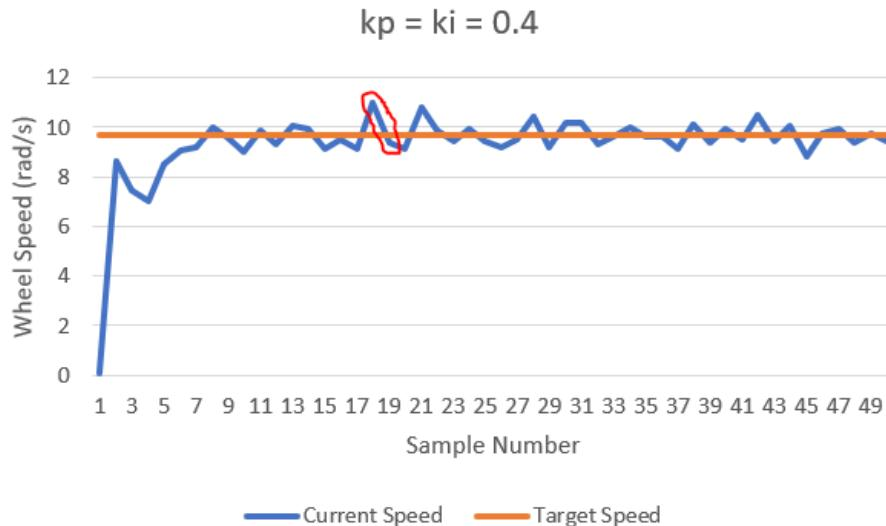

Figure 2. Observation on Derivative of error
- a. Just as in Figure 2, locate two adjacent samples with a large delta in speed.
- b. Navigate to Lab6Template.py → def_loop_drive(ID): and make sure you are receiving PdTargts from the gamepad. This can be done by making sure your code looks like Figure 2 below.